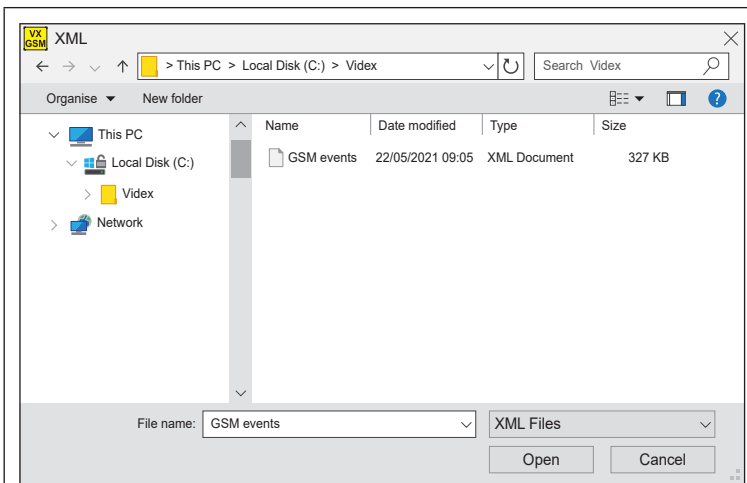

Fig. 70
- The **'XML open'** window will appear, as shown in **Fig.70**, locate the file location of the saved event log (these are saved as XML documents).